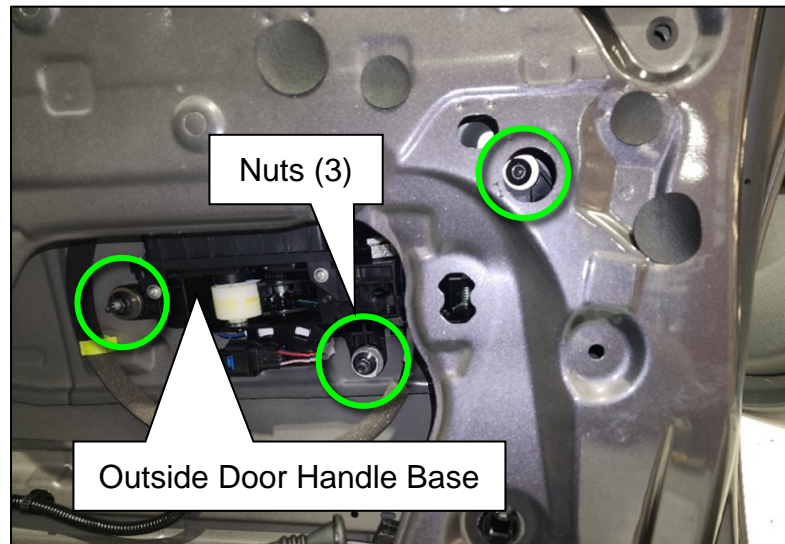

Figure 10
- Using a ratchet, 6 in. extension, and 10mm socket, loosen the three (3) Outside Door Handle Base Nuts $\frac{1}{4}$ to $\frac{1}{2}$ of a turn as shown in Figure 10. If the Outside Door Handle Base does not move, loosen the three (3) Nuts $\frac{1}{4}$ of a turn more.